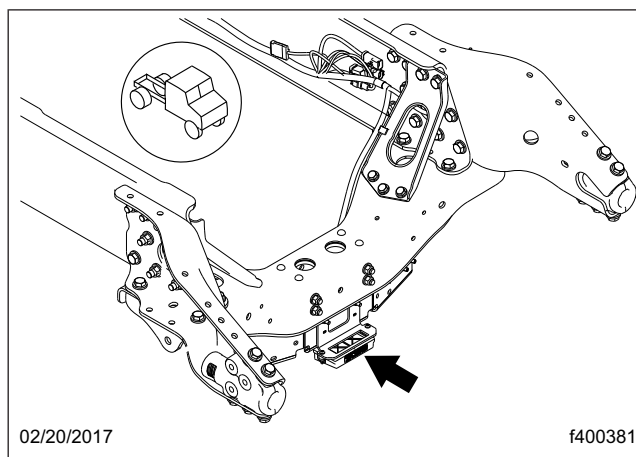

Fig. 5, TPMS Receiver
28. Disconnect the wiring harness and antenna cable from the TPMS ECU Receiver. See Fig. 5.